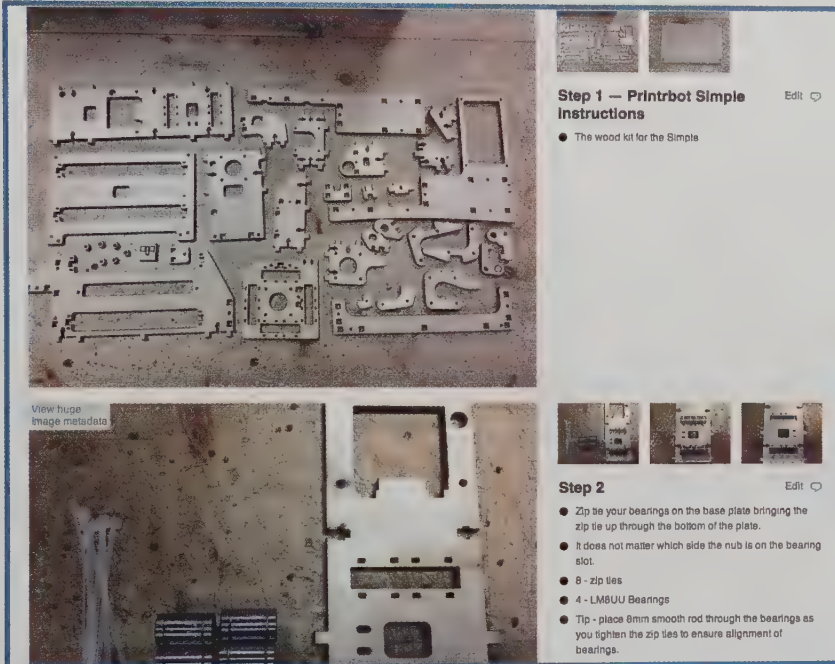
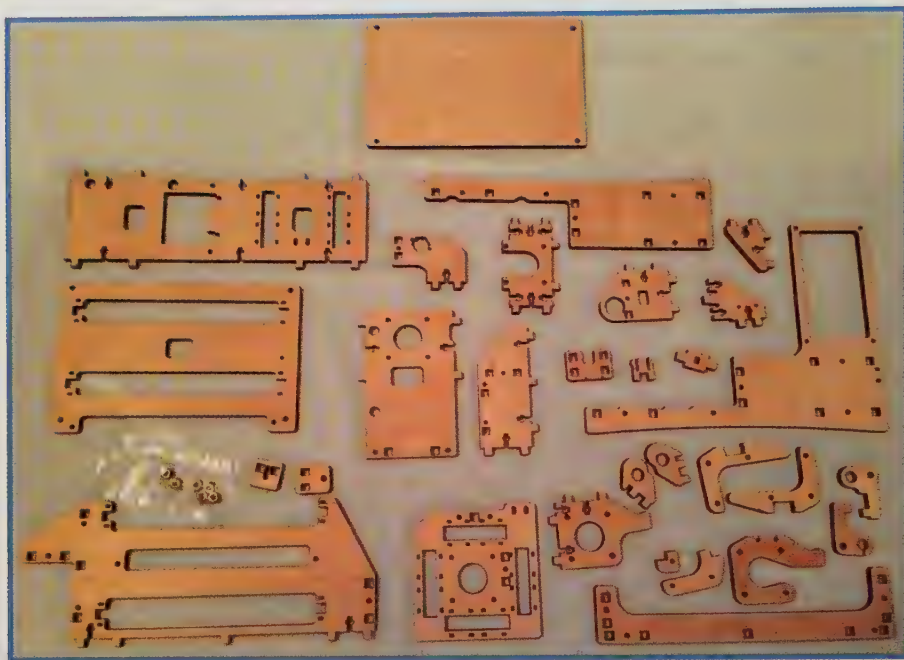

FIGURE 3.2 The first assembly steps for the Printrbot Simple.
FIGURE 3.3 My laser-cut parts are ready to be assembled.
After I've verified that I have all the parts, it's time to start assembly. Some 3D printer manufacturers provide the assembly instructions in printed form, and others may send a DVD that contains documentation or videos that walk you through the assembly. Printrbot puts its assembly instructions online; you can see the first few steps in Figure 3.2.
To make things go a bit smoother, I've laid out all the laser-cut wooden pieces to make them easier to find. As you can see in Figure 3.3, my layout of parts matches the layout for step 1, shown back in Figure 3.2. The only difference is that I've added the rectangular print bed near the top of my layout.
3.4 shows that I've got all four bearings attached to the wooden piece with zip ties. Notice that I haven't yet clipped the zip ties like the ones shown in step 2 of Figure 3.2. I'll clip them before moving on to the next step.
If you look back to Figure 3.2, notice that the BOM describes the bearings with a part number—LM8UU. Fortunately, all the bearings included in the Simple kit are labeled. You have to look carefully, but the part number is visible on the rubber gasket that's inserted inside one end of each bearing.